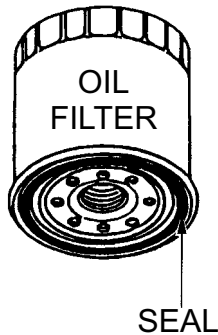

Figure 46. Oil Filter/Seal
- Be sure to coat the seal (Figure 46) of the new oil filter with clean engine oil.